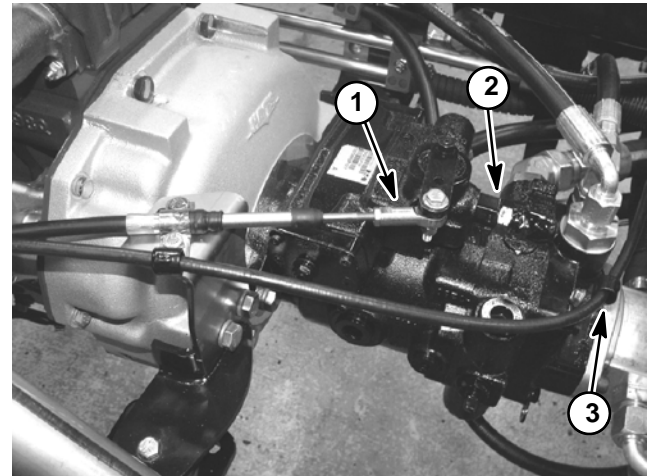

Figure 50
5. Disconnect wire harness connector from neutral switch on piston pump (Fig. 50).
6. Remove flange head screw and flange nut that secures R-clamp and right side brake cable to pump assembly (Fig. 50).
7. Connect wire harness connector to neutral switch on piston pump (Fig. 50).
9. Secure R-clamp and right side brake cable to pump assembly with flange head screw and flange nut (Fig. 50).